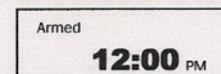

FIGURE 8
STEP 8: If you choose to continue, set run time from 1 to 30 seconds, and while repeating STEPS 3 thru 5, take note to the small number in the lower left hand corner which will indicate which of the 6 possible feedings you are setting. After finishing this step press the SELECT/ENTER button, and the screen will appear like FIGURE 8.
STEP 9: Looking at figure 8 you see the word "Armed" which indicates that your unit is now in service. It will perform the commands that you have programmed. You can test your unit by pressing the test button. (This will set up a count down from 10-9-8-00 and at the 00 your unit will run for 5 seconds at a 100% motor speed.) *Note that the 100% motor speed is regardless of any other speed you may have set.* Once you confirm that the test has successfully run, your unit is ready for use.